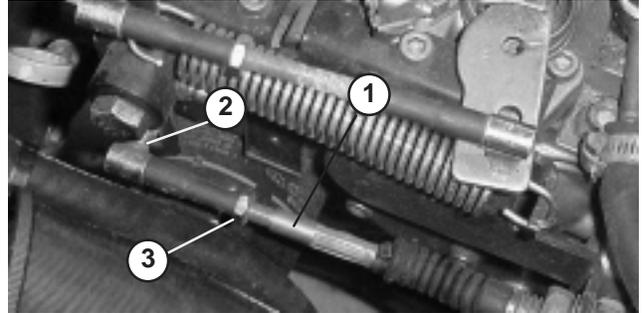
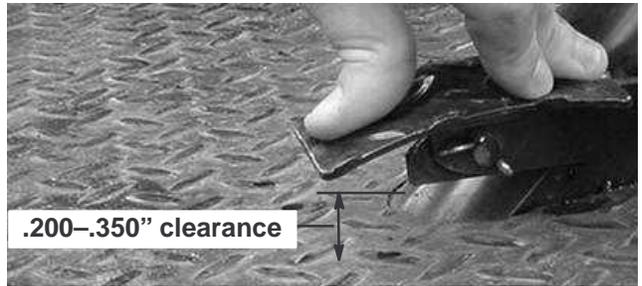

Figure 50
Figure 51
2. Adjust ball joint on accelerator cable (Fig. 50) to allow .200”–.350” of clearance between accelerator pedal arm and top of diamond tread floor plate (Fig. 51), when a 25 lb. force is applied to center of pedal. Tighten locknut.